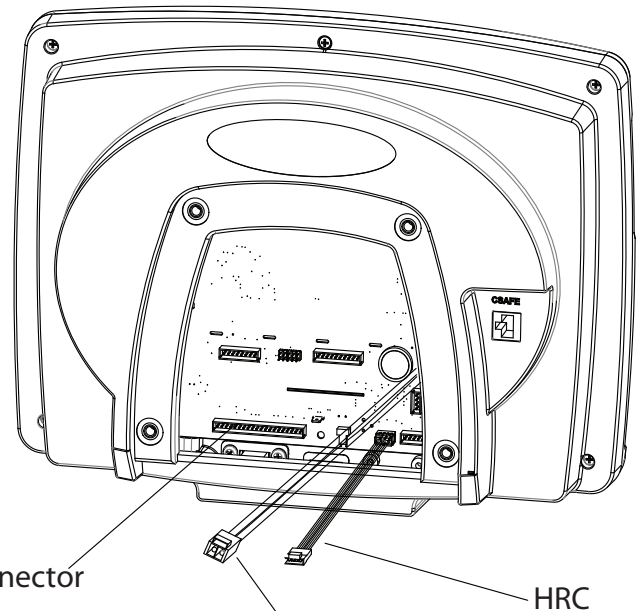

Figure 17
- 10-1 Grasp the FreeClimber console and connect the HRC **cable** from the upper mast weldment to the PC board **cable** (see Figure 17).
- 10-2 Connect the power connector to the power dongle on the console. (see Figure 17).
- 10-3 Connect the Main **cable** from the mast to the 20-pin connector on the PC board (see Figure 17).